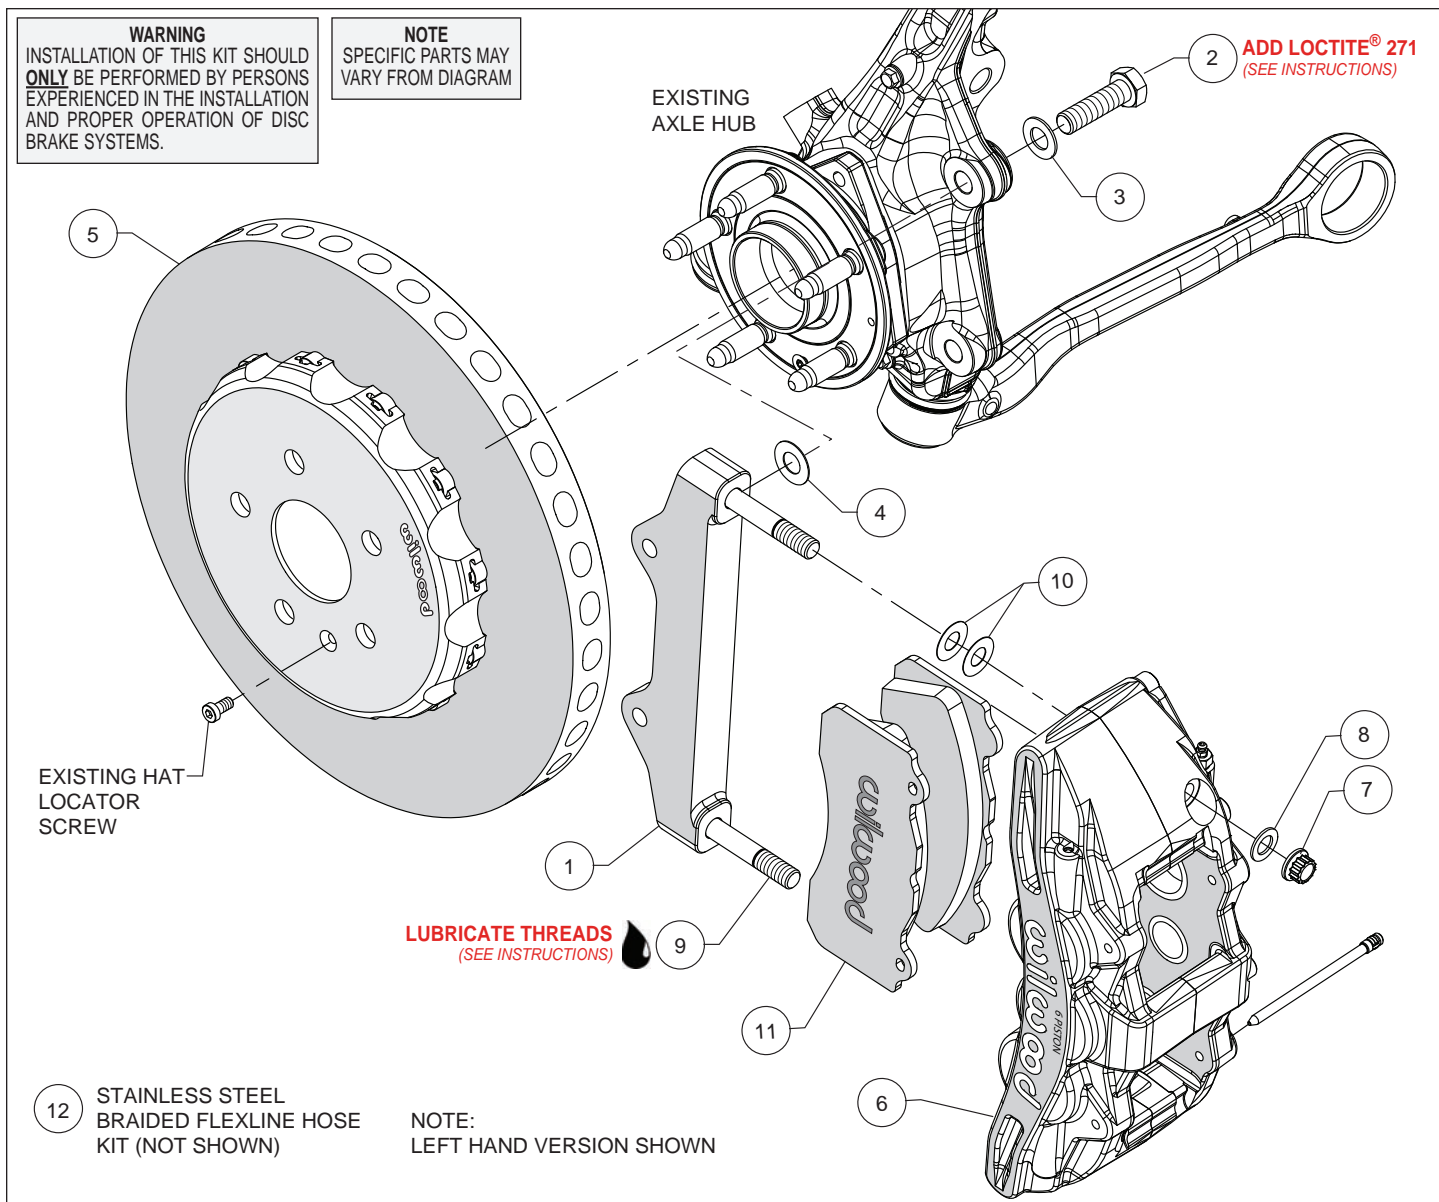

Figure 1. Typical Installation Configuration
Assembly Instructions (numbers in parenthesis refer to the parts list and Figure 1 on the preceding pages):
- The caliper mount bracket (1) should initially be installed with clean, dry threads on the mounting bolts. Orient the bracket, as shown in Figure 1 and Photo 1, and install using bolts (2) and washers (3). Initially place one .029" thick shim (4) on each bolt between the bracket and upright, Figure 1. Temporarily tighten the mounting bolts. **NOTE:** *The bracket must fit squarely against the mount bosses on the upright.* Inspect for interference from casting irregularities, machining ridges, burrs, etc. Later, after the caliper alignment has been checked, the mount bolts will be secured using red *Loctite*[®] 271.
- The hat/rotor assembly (5) has been pre-assembled at the factory. Slide the hat/rotor assembly onto the axle hub, Photo 2. **NOTE:** *The hat must fit flush against the axle hub flange or excessive rotor run out may result.* Install the hat locator screw (OEM), as shown in Figure 1, to keep the hat/rotor assembly in place while continuing with the installation.
- NOTE:** *This kit contains distinct right and left hand calipers that must be mounted in a specific direction, as described below.* Lubricate the caliper mounting studs (9) with lightweight oil. Initially place two .015" thick shims (10) on each stud between the caliper and the bracket, as shown in Figure 1 and Photo 3. Mount the caliper (6) onto the bracket (1) using lock nuts (7) and washers (8), Figure 1. Temporarily tighten the lock nuts. Ensure that the caliper is mounted so the largest pistons are at the rotor exit end of the caliper, in relation to the direction of the rotor. View the rotor through the top opening of the caliper. The rotor should be centered in the caliper, Photo 4. If not, adjust by adding or subtracting shims (4) between the bracket and the upright. Always use the same amount of shims on each of the two mounting bolts. Once the caliper alignment is correct, remove the bracket mounting bolts (2) one at a time, apply red *Loctite*[®] 271 to the threads, and torque to 77 ft-lbs.
- Remove the two pad retaining pins from the caliper (6) by pushing out the pins from the tapered end using a blunt instrument. Insert the brake pads (11) into the caliper from the bottom, Figure 1 and Photo 5. With the friction material facing the rotor, secure the brake pads in place with the pad retaining pins, Photo 6. Reinstall the caliper onto the caliper mounting bracket and temporarily tighten the lock nuts (7). Check that the top of the brake pad is flush with the outside diameter of the rotor, Photo 7. If not, adjust by adding or subtracting shims (10) between the caliper and the bracket. After the caliper pad height is set, torque the caliper lock nuts (7) to 65 ft-lb.